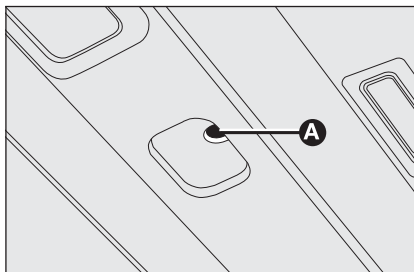

fig. 98
- ☐ introduce the socket in **A**-fig. 98 and turn it: